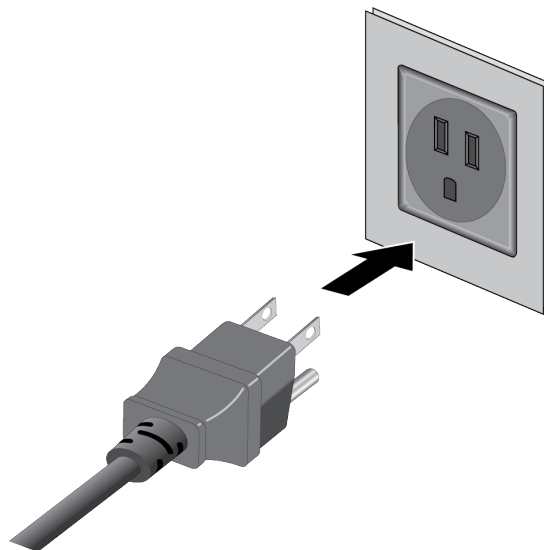

Figure 30. Connecting the Power Cords to an AC Power Source
4. Connect the power cords to an appropriate AC power source. Refer to Figure 30 on page 74.